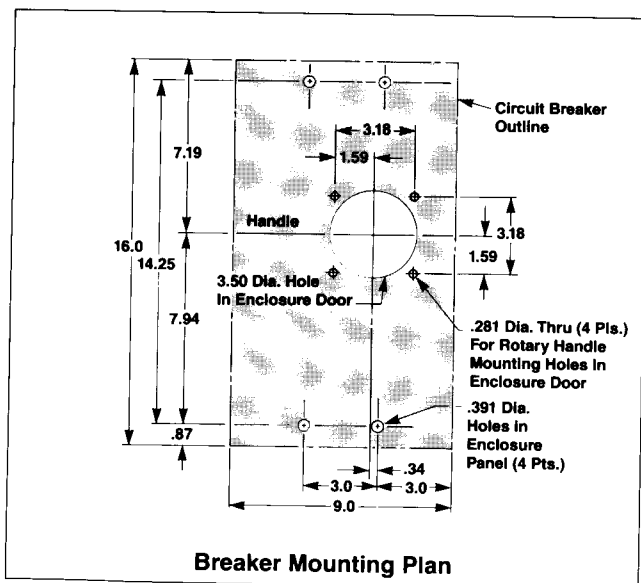
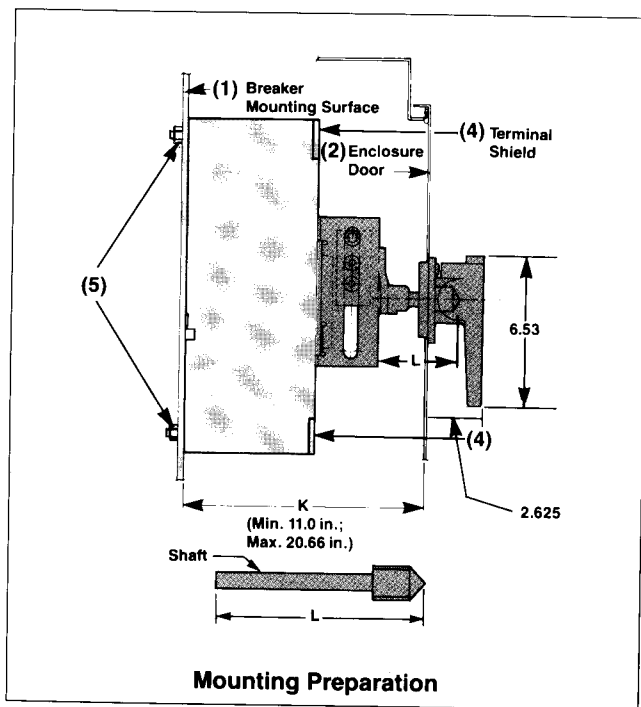

Figure 1
Figure 2
- Catalog number RHONSSD standard depth shafts are for use in 11 in. deep enclosures. Refer to minimum K dimension in Figure 2. Catalog number RHONSVD variable depth shafts are used for all other enclosure depths up to 20.66 in. deep. Shafts are cut to length L as shown in Figure 2.
- Place circuit breaker mounting holes (Figure 1) in breaker mounting surface (1) and handle mounting holes in enclosure door (2) (Figure 2).